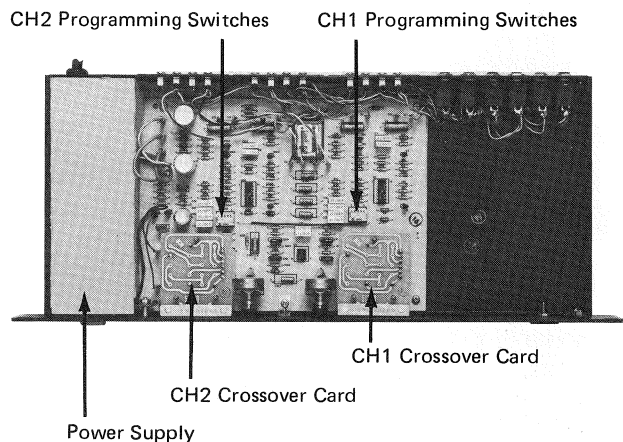

Figure 4 – Identification of Major Components Inside 5234A
2. Remove the old crossover cards by lifting both sides of a card simultaneously and gently (Figure 4). Friction from the three mounting pins and the electrical connector must be overcome.
Inside the 5234A, each channel is equipped with a miniature bank of five On-Off slide switches. Each bank of sliders is housed in small rectangular package resembling an integrated circuit, and since the multi-switch housing has two rows of pins which secure it to the circuit board, it is known as a dual in-line pin switch (hence "DIP"). Each of the two DIP switches performs the identical functions, one for Channel 1 and the other for Channel 2 (Figure 4).